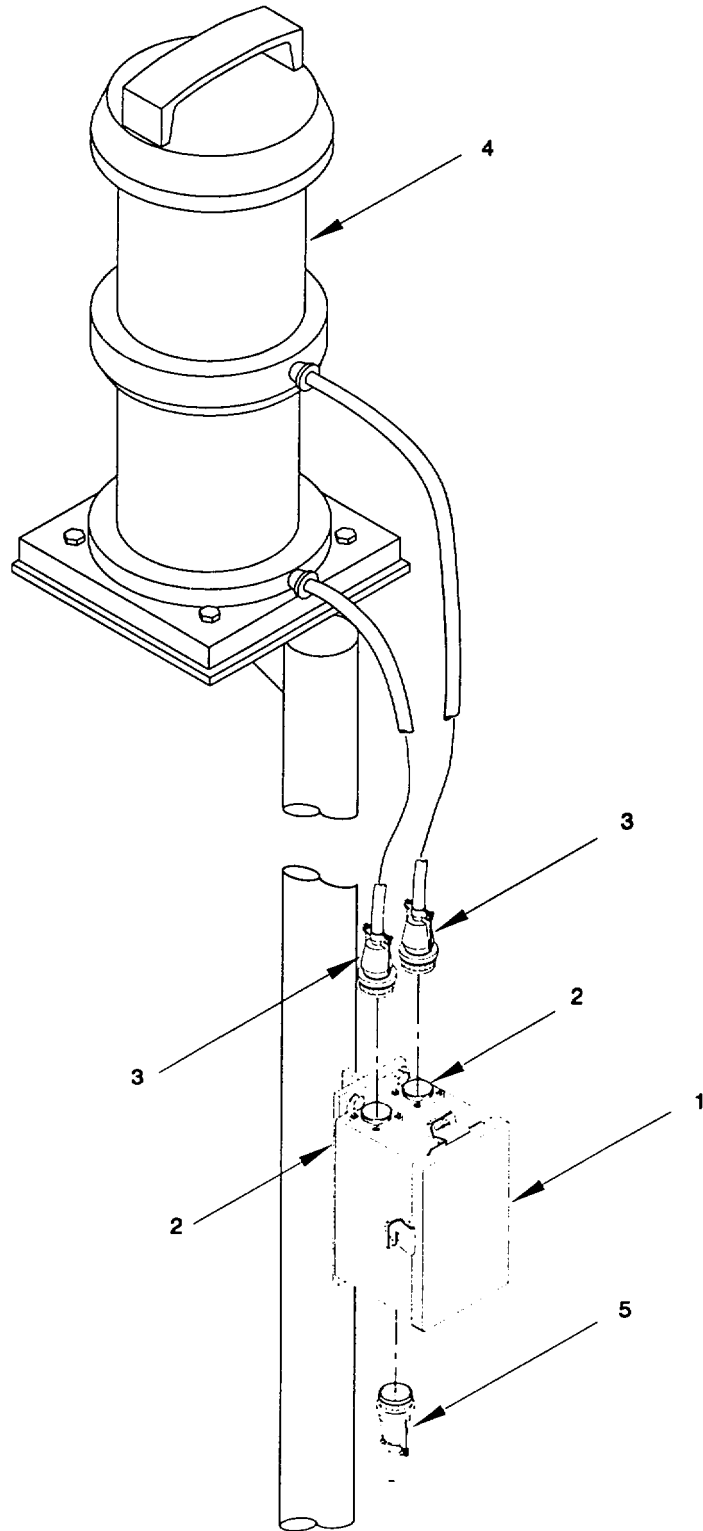

Figure 2-170. Cables and Enclosure Assembly, Inspect/Repair.
b. Inspect. (figure 2-170)
(1) Open and visually inspect inside of junction box enclosure (1) for moisture and broken wiring connections. Resolder connections or replace wires if necessary. Remove any moisture with a clean, lint-free cloth.
(2) Inspect connector receptacles (2) for corrosion, bent pins, or dirty plugs. Clean off corrosion, straighten pins, clean out plugs.
(3) Inspect pigtails (3) from stern light (4) for corrosion, connection separation, insulation cracking. Bent pins and dirty plugs. Clean off corrosion, straighten pins, clean out plugs.